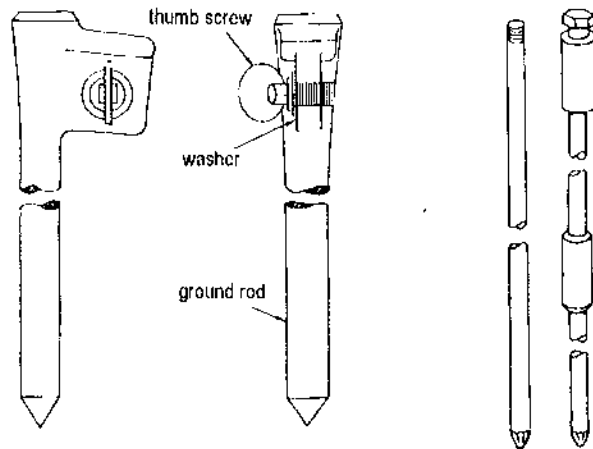

Figure 7 - 6-foot and 8-foot ground rods
1) Ground Rod - Two are available in the Army inventory: the 8-foot ground rod, NSN 5975-00-878-3791, or the 6-foot ground rod, NSN 5975-00-224-5260 (see figure 7). The 6-foot rod comes in a single section, whereas the 8-foot rod is a three-section rod. Ground rods can be installed using a sledgehammer or, in the case of the sectional rod, a slide hammer (NSN 5120-01-013-1676).